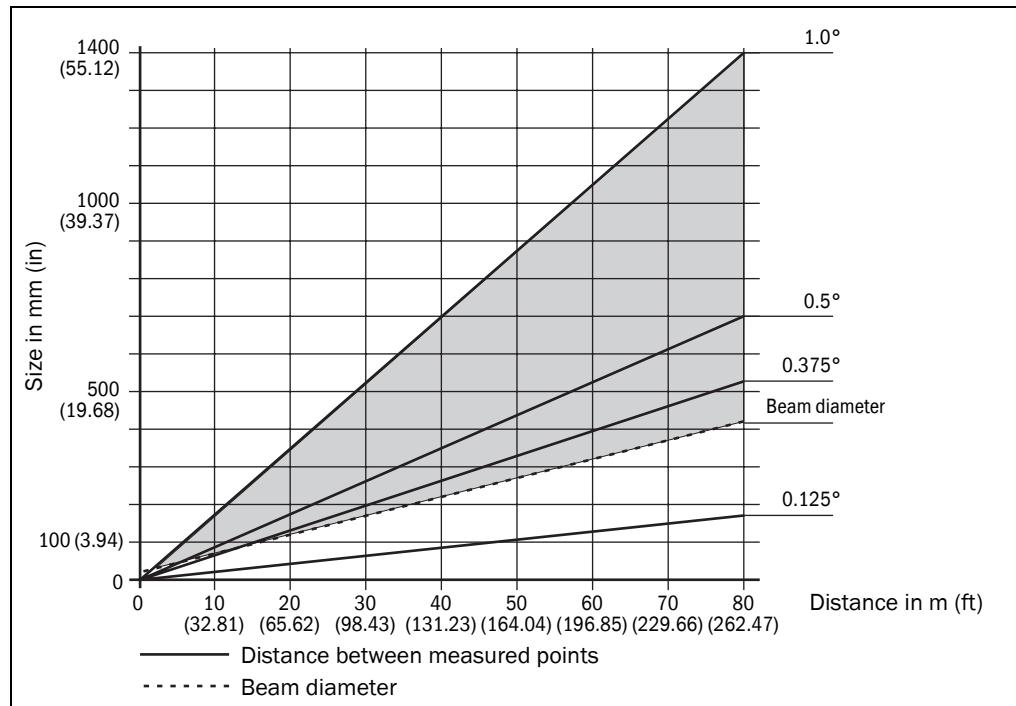
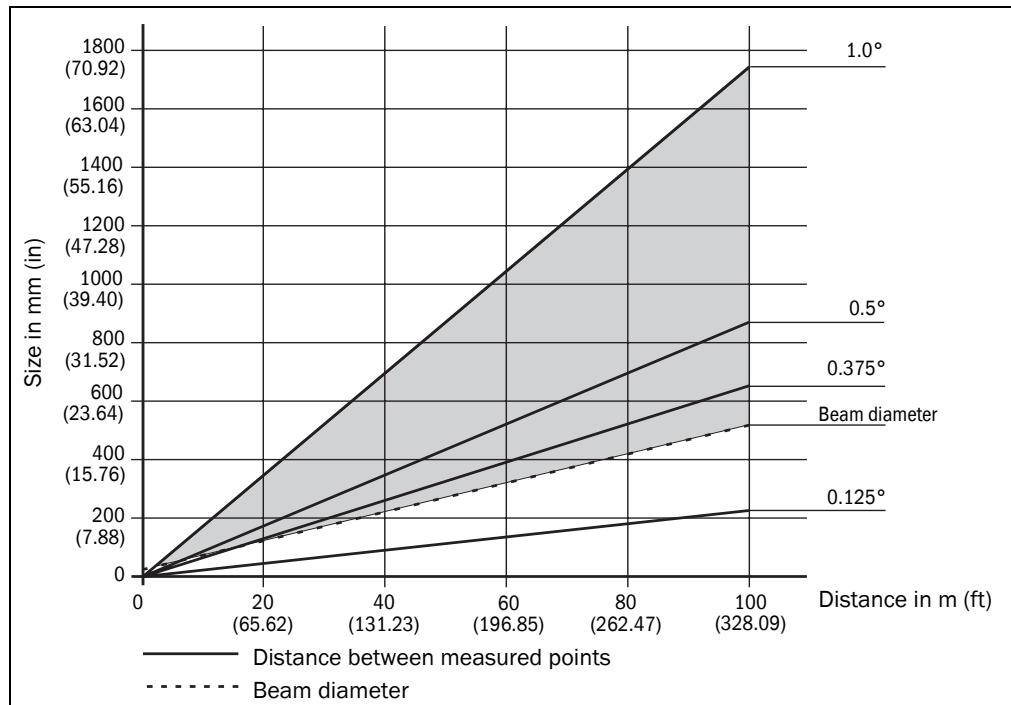

Fig. 12: Beam diameter and distance between measured points at 0 to 80 m (0 to 262.47 ft)
Fig. 13: Beam diameter and distance between measured points at 0 to 250 m (0 to 820.21 ft)
The two diagrams in Fig. 12 and Fig. 13, Page 24 show the beam diameter and the distance between the measured points as a function of the distance from the LD-OEM.
Example for angular resolution of 0.125° in Fig. 12
Example for angular resolution 0.5° in Fig. 13
- For the beam diameter and distance between the measured points as a function of the distance from the LD-OEM, see the diagrams in Fig. 12, Page 23 and Fig. 13, Page 24.